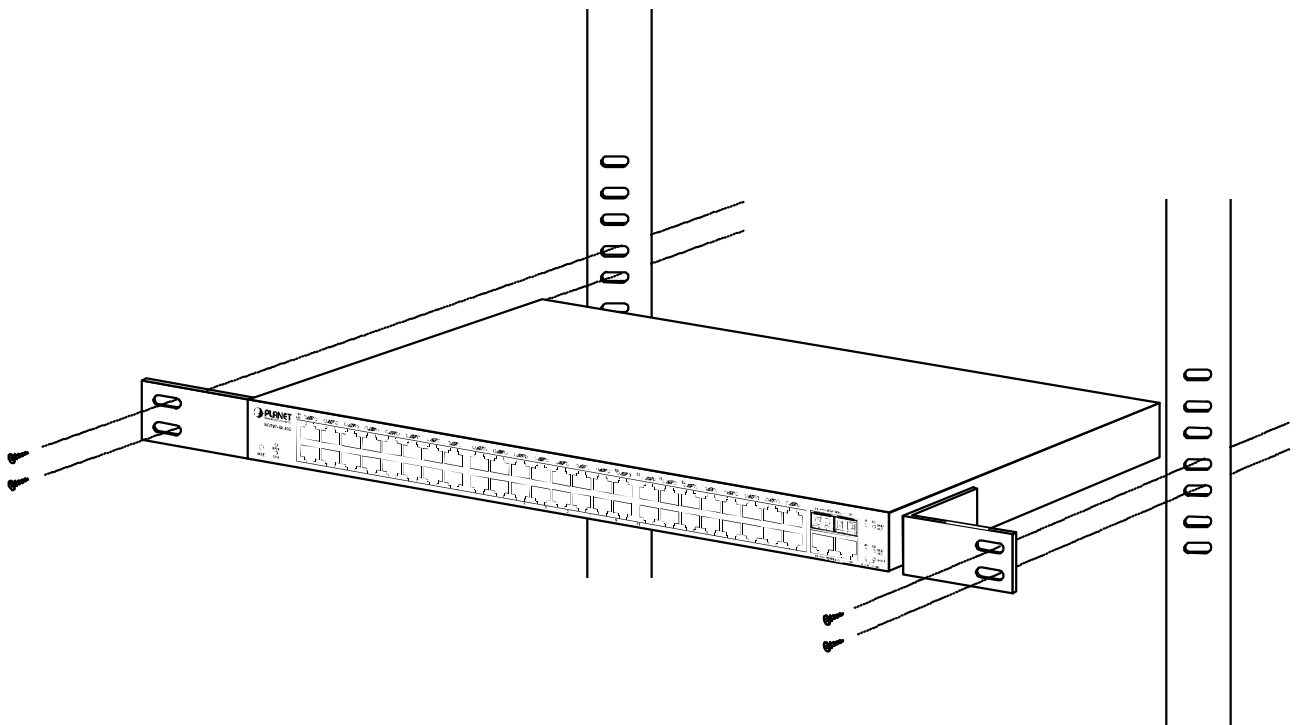

Figure 2-4 Mounting the Switch in a Rack
Step5: After the brackets are attached to the Switch, use suitable screws to securely attach the brackets to the rack, as shown in **Figure 2-4**